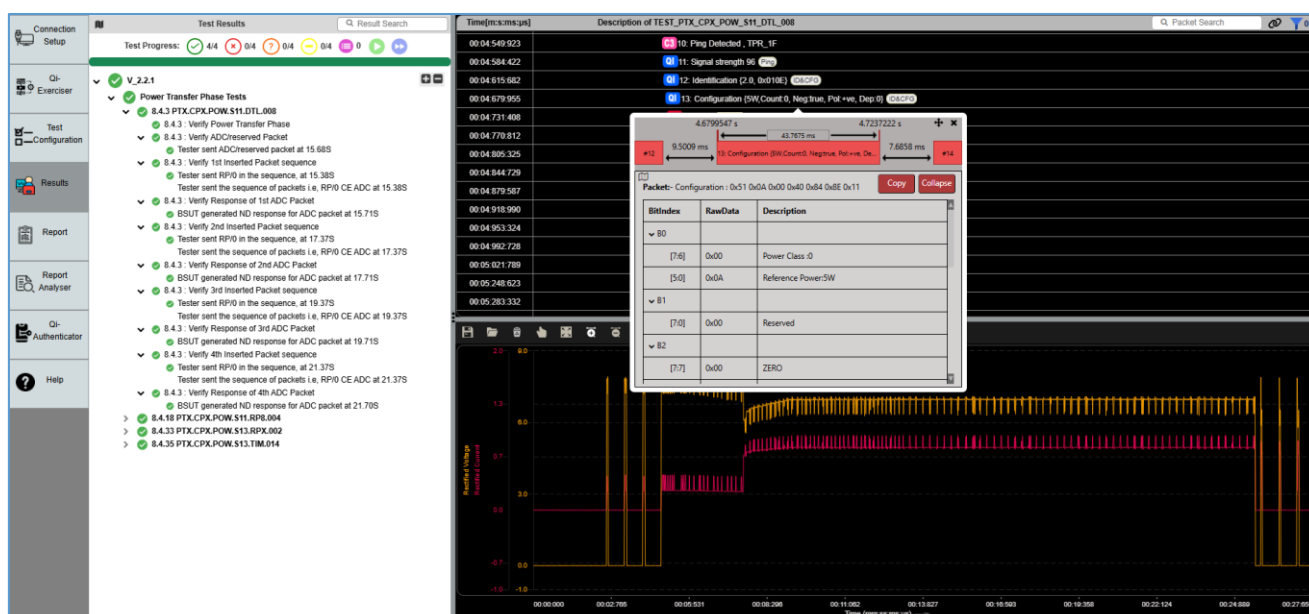

FIGURE 8.66: SELECTED TRACE FILE LOADED FOR VERIFICATION
3. The selected trace file will be loaded as shown in the example in Figure 8.66 below. After loading the capture, the test data with packet, waveform &